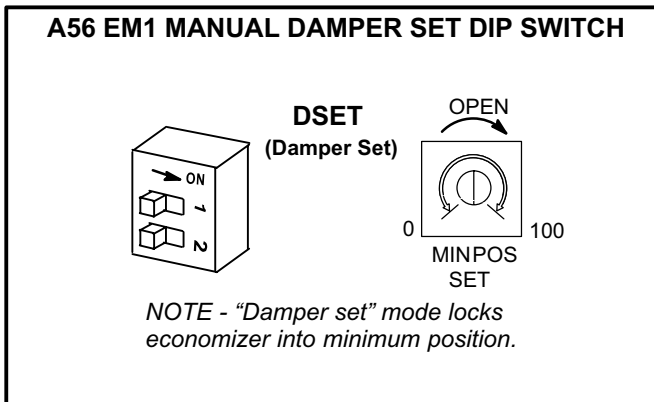

FIGURE 42
- 3- Set economizer DIP switch to “DSET” position as shown in figure 42. DIP switch is located on the A56 economizer board.
- 4- Adjust the MIN POS SET potentiometer until the air flow hood reads the design minimum outdoor air CFM. See figure 42.